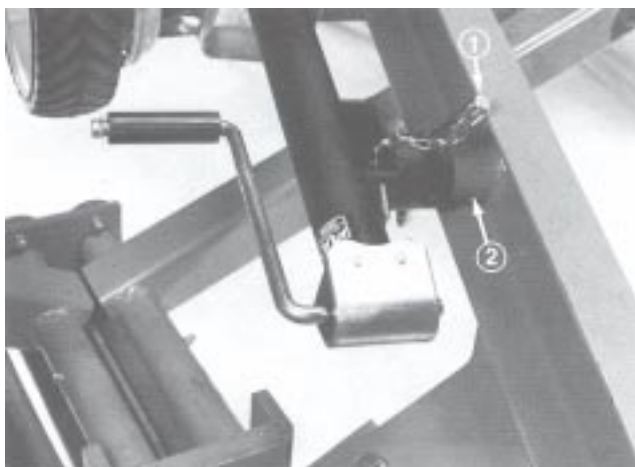

Figure 2
- Remove jack from storage position by removing pin and sliding jack off storage tube (Fig. 2).